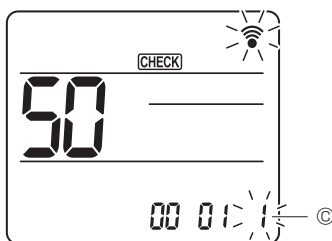

Fig. 15-4
Use the **[DOWN]** button to change the Setting number ③. (Fig. 15-4)